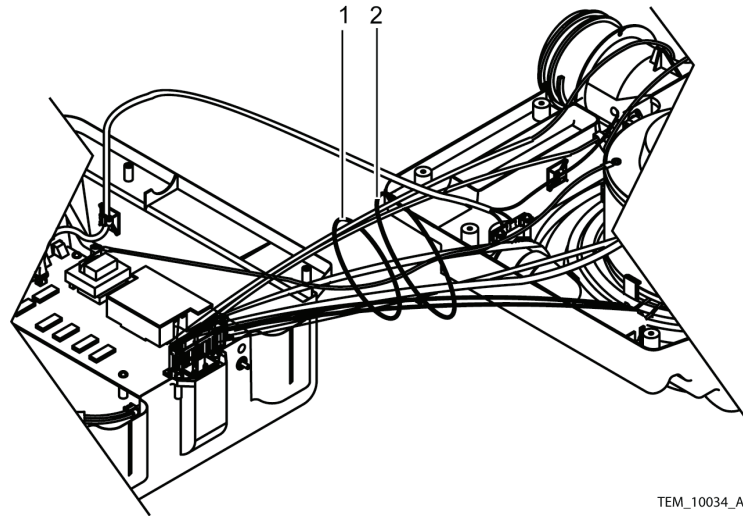

Figure 31. Cable Harness Bundle Ties
29. Install the cable harness bundle ties. See Figure 31.